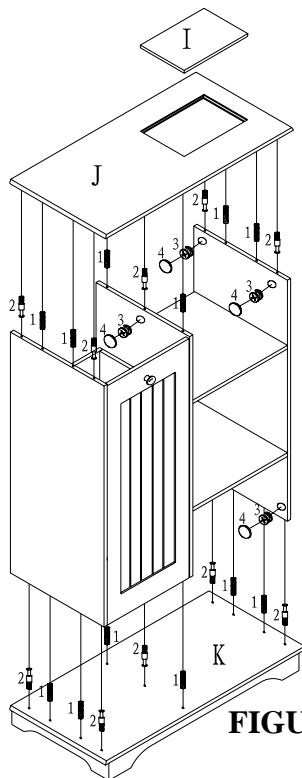

FIGURE 5
8. INSERT WOOD DOWELS (1) AND CAM-BOLTS (2) INTO PREDRILLED HOLES ON UPSIDE OF BASE (K), WITH AN ASSISTANT, INSERT WOOD DOWELS (1) AND CAM-BOLTS (2) EXTENDING FROM BASE (K) INTO CORRESPONDING HOLES ON BOTTOM EDGES OF PARTS (G, F, H). INSERT CAM-LOCKS (3) INTO BIG HOLES ON INSIDE OF PARTS (G, F, H) WITH SLOT FOR SCREWDRIVER FACING OUTWARD. ROTATE CAM-LOCKS (3) CLOCKWISE TO SECURE CAM-BOLTS (2). PUSH COVERS (4) INTO CAM-LOCKS (3). AS FIGURE 5 SHOWN.
9. INSERT WOOD DOWELS (1) AND CAM-BOLTS (2) INTO PREDRILLED HOLES ON UNDERSIDE OF TOP PANEL (J) AND FIT INTO CORRESPONDING HOLES ON TOP EDGES OF PARTS (G, F, H). INSERT CAM-LOCKS (3) INTO BIG HOLES ON INSIDE OF PARTS (G, F, H) WITH SLOT FOR SCREWDRIVER FACING OUTWARD. ROTATE CAM-LOCKS (3) CLOCKWISE TO SECURE CAM-BOLTS (2). PUSH COVERS (4) INTO CAM-LOCKS (3). AND FIT THE CUTTING BOARD (I) INTO THE TOP PANEL (J). AS FIGURE 5 SHOWN.